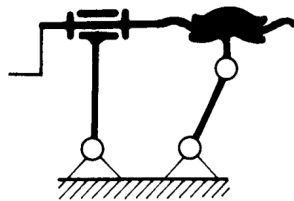

Fig. 2. Family 2 – 4 DOF in total [Miller 1989]
**Family 2** – all links have the same degrees of freedom removed. For the mechanism in Figure 2, these are rotation about the vertical axis and translation about the axis perpendicular to the plane of the figure.